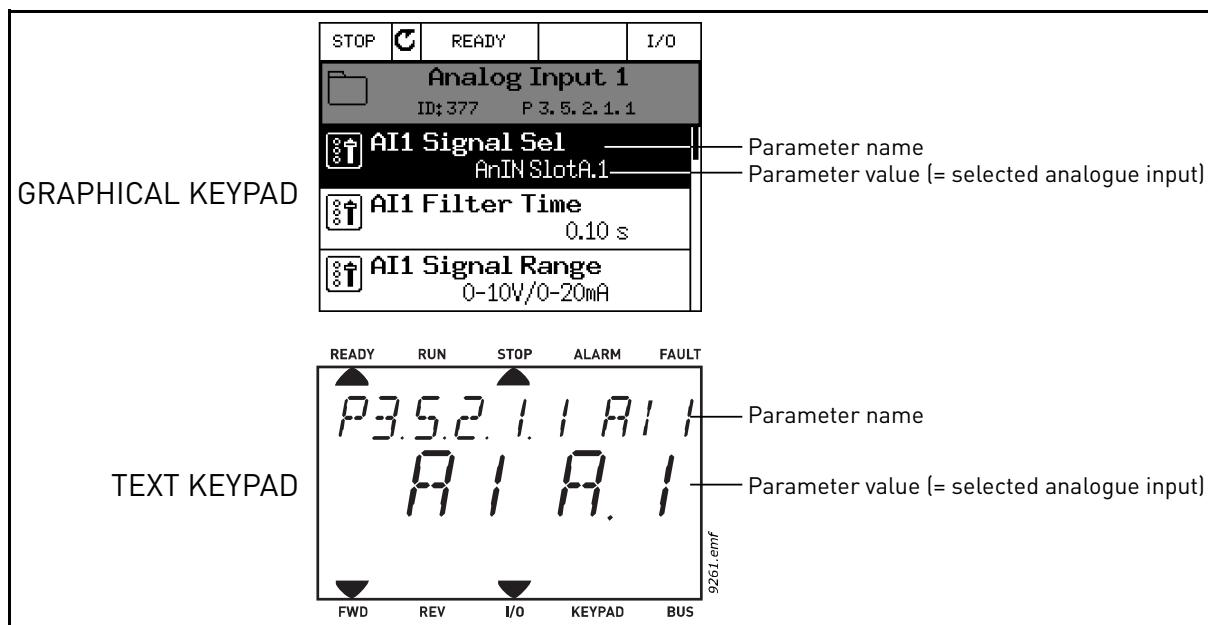

Figure 62.
2. You are now in the Edit mode as the slot value DigIN SlotA . is blinking and underlined. (Should you have more digital inputs available in your I/O, for example, through inserted option boards in slots C , D or E , they can also be selected here.). See Figure 62.	2. You are now in the Edit mode as the letter d is blinking. (Should you have more digital inputs available in your I/O, for example, through inserted option boards in slots C , D or E , they can also be selected here.). See Figure 62.